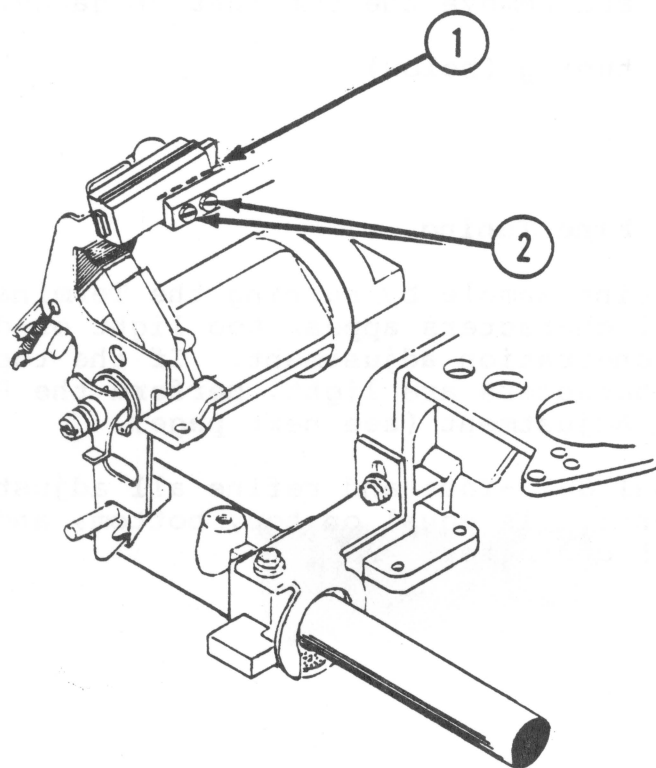

FIGURE 12
2. Draw a reference line on the hammer housing so that you can see your adjustments (see Figure 12, #1).
4. Loosen the adjustment screws (Figure 12, #2).